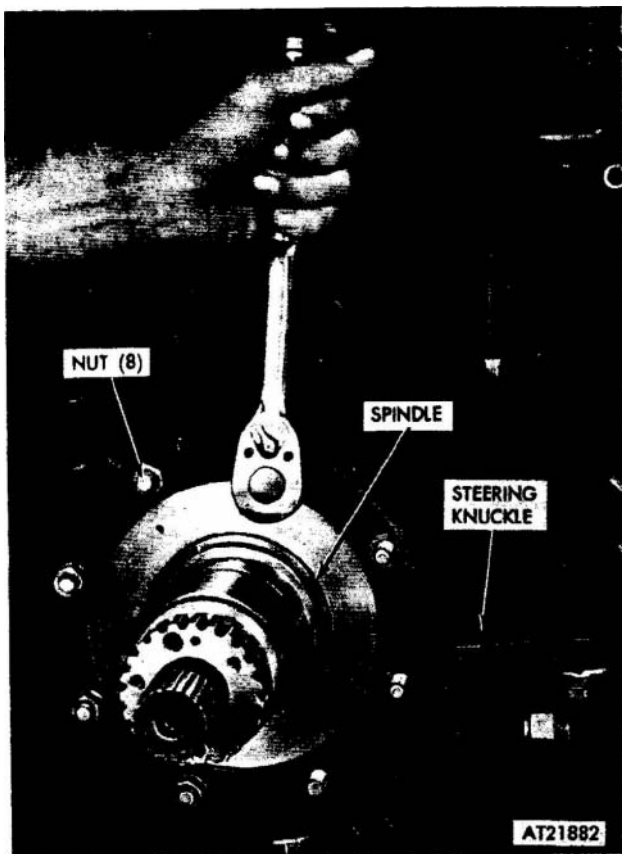

Figure 2-229. Spindle removal and installation.
(24) Remove spindle from steering knuckle by removing eight nuts and lock washers (fig 2-229).
(7) Insert stub axle through spindle from the rear and position and secure spindle to steering knuckle with eight nuts and lock washers (fig 2-229). Torque nuts 40-50 lbs-ft.